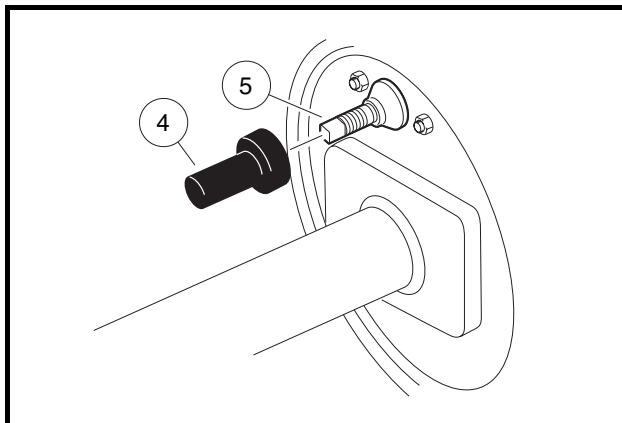

**Figure 6-27 Rear Equalizer Adjustment**
- 1.1. To provide slack in the brake cables, loosen the equalizer retaining nuts (1 and 5) on the equalizer rod (2) (**Figure 6-27, Page 6-13**).
- 2.2. Tighten the jam nut (5) on the rear equalizer rod (2) clockwise to 35 in-lb (4 N·m) (**Figure 6-27, Page 6-13**).
- 2.5. Hold the jam nut (5) on the rear equalizer rod (2) in place with a wrench and tighten the lock nut (1) to 13 ft-lb (17.6 N·m) (**Figure 6-27, Page 6-13**). **See following CAUTION.**
- If the brake pedal return spring (6) was disconnected while equalizing the brake cables, be sure to reconnect it before proceeding (**Figure 6-27, Page 6-13**).
2. Release park brake and loosen equalizer retaining nuts (1 and 5) on equalizer rod (2) to slightly loosen brake cable (**Figure 6-27, Page 6-13**).